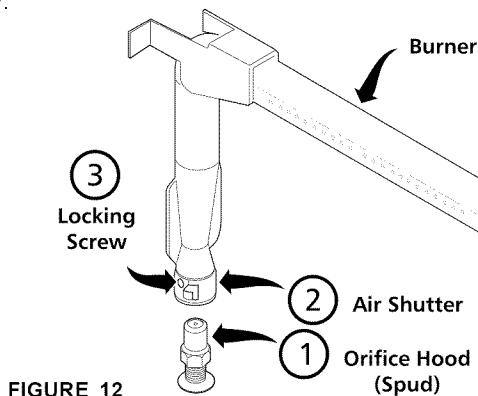

FIGURE 12
- Turn off oven and allow to cool before adjusting air shutter. To adjust loosen lock-screw (See Figure 12), reposition air shutter, and tighten lock-screw.